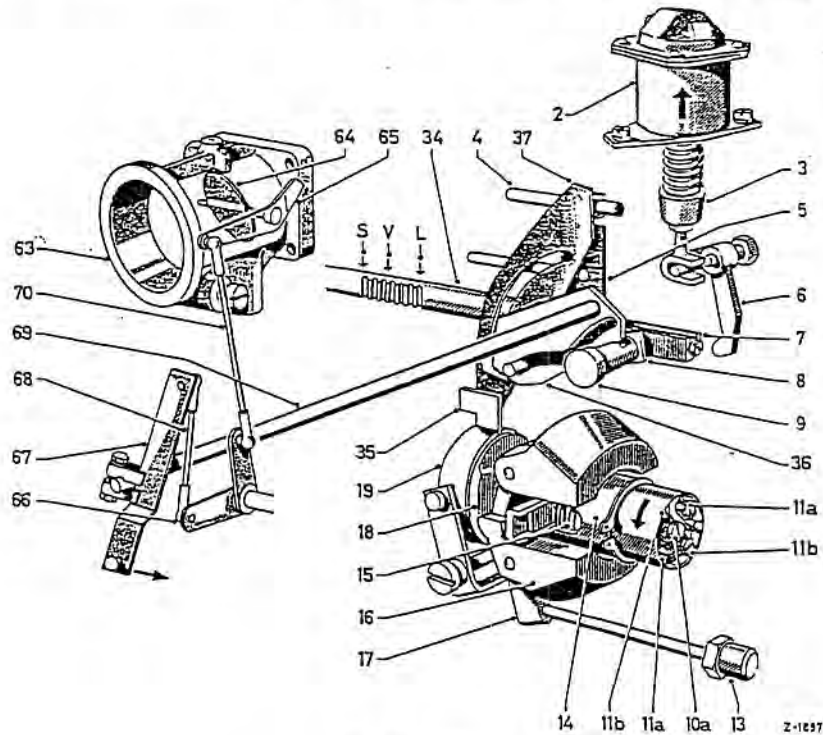

Fig. 07-10/12
As was mentioned above, the injection amount delivered by the injection pump for Models 220 SE, 220 SEb and 300 SE is mechanically controlled. When the accelerator pedal is depressed, the fuel control rod of the injection pump is moved and at the same time the throttle valve in the venturi control unit is opened. For this purpose the adjustment lever (67) on the injection pump is connected to the throttle valve lever (65) on the venturi control unit via the push rod (68), the control lever (6) and the pull rod (70) (Fig. 07-10/12). The adjustment lever on the pump is operated by a push rod attached to the lever of the control shaft for the accelerator pedal. Thus fuel and air are positively controlled. Each position of the throttle valve in the venturi control unit corresponds to a certain definite position of the adjustment lever on the injection pump. This so-called "correlation" is not linear but progressive.